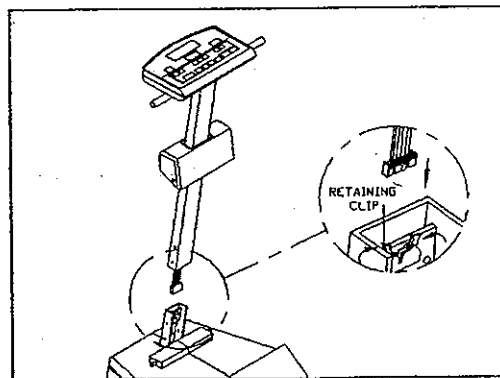

Fig. 1
- b. If the display is still blank, make sure the retaining clip connected into its socket securely. (see Fig.1).